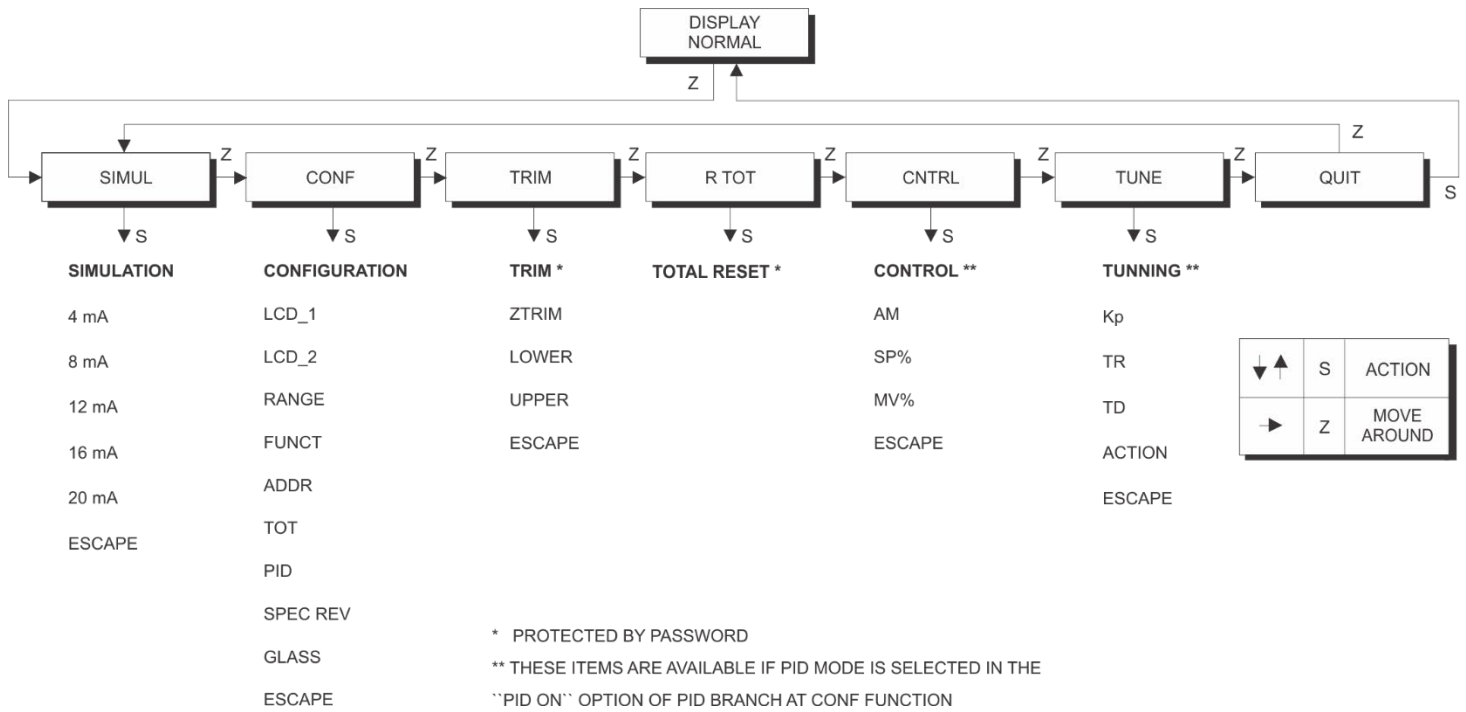

Figure 4.3 – Local Adjustment Programming Tree – Main Menu
- 2 - In order to reach the desired option, browse the options, wait until they are displayed and move the magnetic tool from (**Z**) to (**S**). Refer to Figure 4.3 – Local Adjustment Programming Tree, in order to know the position of the desired option. By placing the magnetic tool once again in (**Z**), it is possible to browse other options within this new branch.
The local adjustment uses a tree structure where, by placing the magnetic tool in (**Z**) it is possible to browse the options of a branch and, by placing it in (**S**); details of the chosen option are shown. Figure 4.3 - Local Adjustment Programming Tree shows the **LD301** available options.
From version 7.00.00 of LD301 the local adjustment tree has been changed to that shown in figure 4.3.